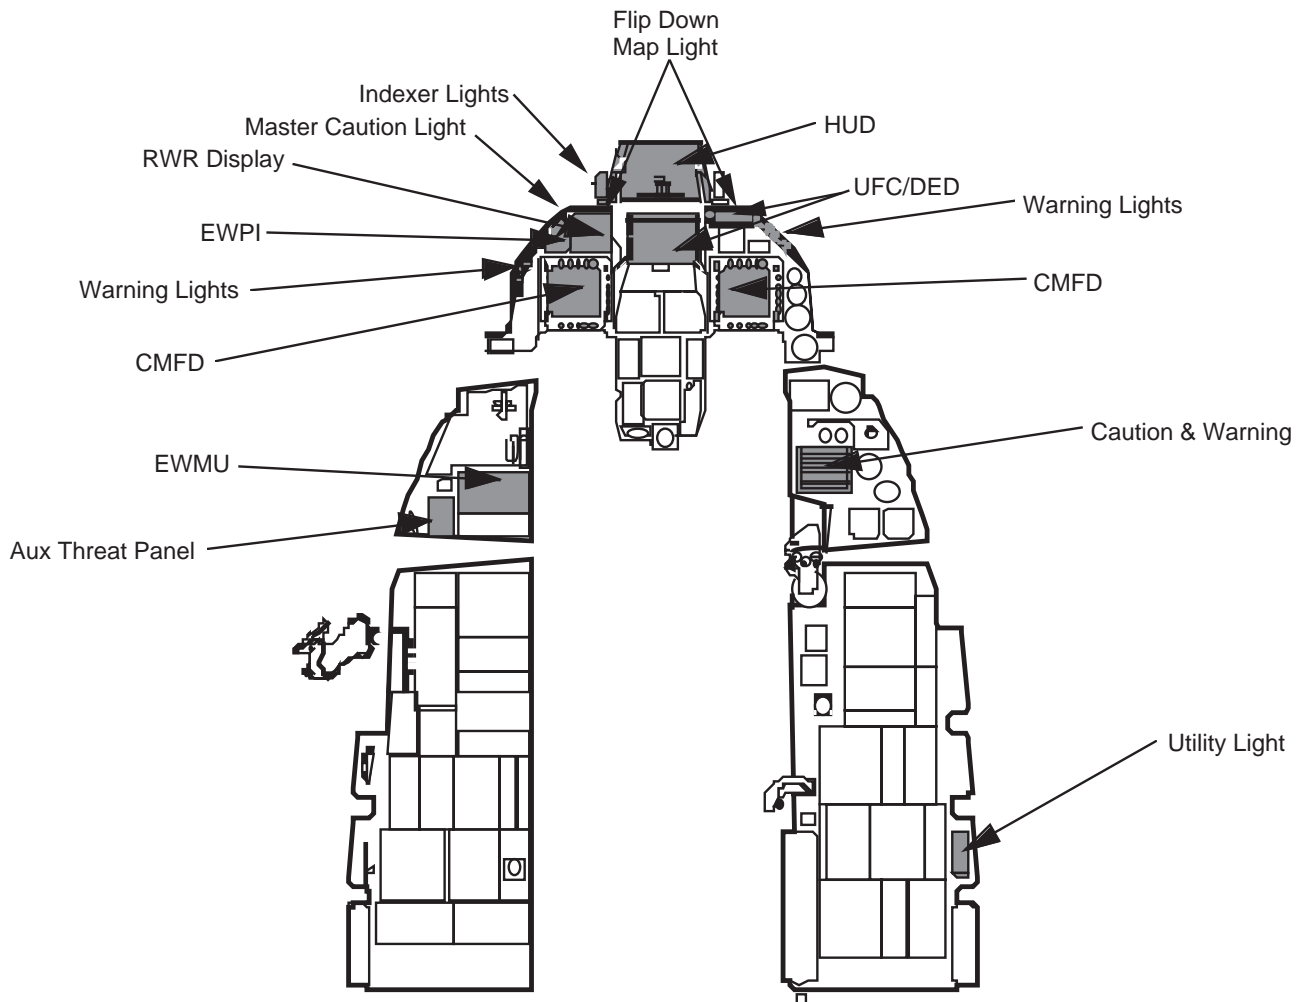

Figure 1-78 MLU NVIS Compatible Displays and Panels
- Second, all newly procured light emitting control panels and displays were required to be NVIS compatible. Figure 1-78 shows the current NVIS compatible equipment.